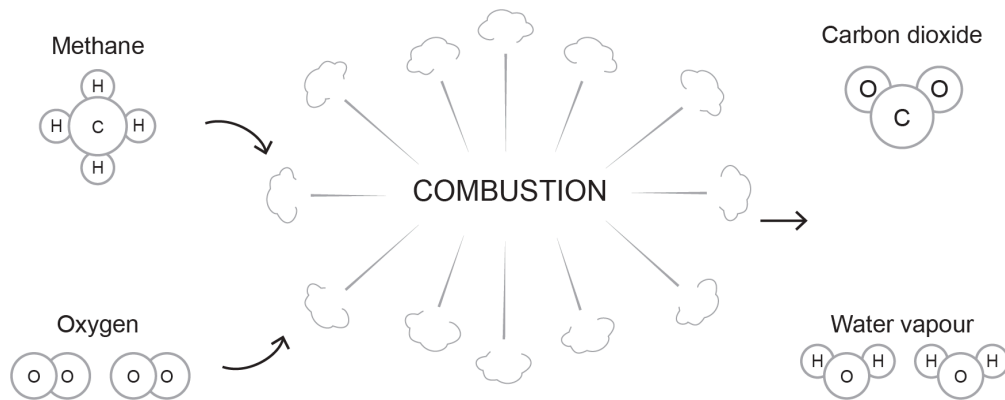

Figure 2 Combustion of methane and oxygen. (Skilled Trades BC, 2021) Used with permission.
- **incomplete combustion:** Occurs when there is insufficient oxygen for the fuel to burn completely, producing hazardous byproducts like carbon monoxide (CO), soot, and aldehydes. (Section A-3.1)
- **primary air:** The portion of combustion air mixed with the fuel gas before ignition, typically one-third of the total combustion air. (Figure 2, Section A-3.2)
Figure 2 illustrates the chemical combustion of natural gas (methane) and oxygen.
Notice that, compared to Figure 2, we have now introduced nitrogen into the combustion process. Nitrogen is an inert gas that remains stable and will not chemically react, provided that the temperatures are not too high. Nitrogen does increase the total volume of flue gas, thereby absorbing some of the heat produced by the reaction. At high